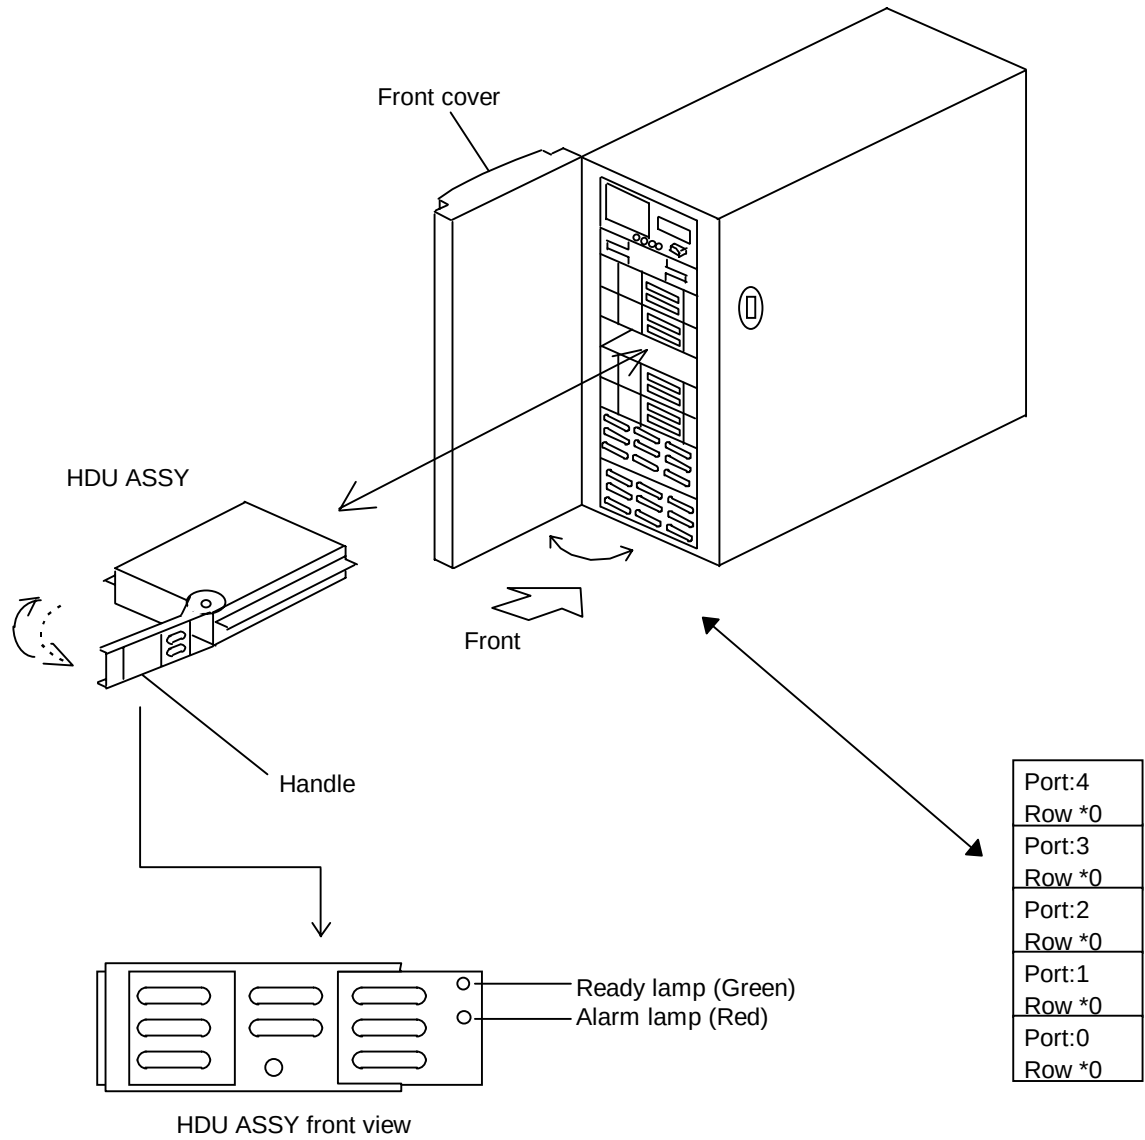

Figure 2.6.1 Installing the HDU ASSY
- (2) Open the front cover and the side covers.
(3) Remove the old HDU ASSY and set the new HDU ASSY. (See Figure 2.6.1 in DK-OPTION0160.)
(4) Set the DIP switches 4 and 6 on the CTL ASSY to down.